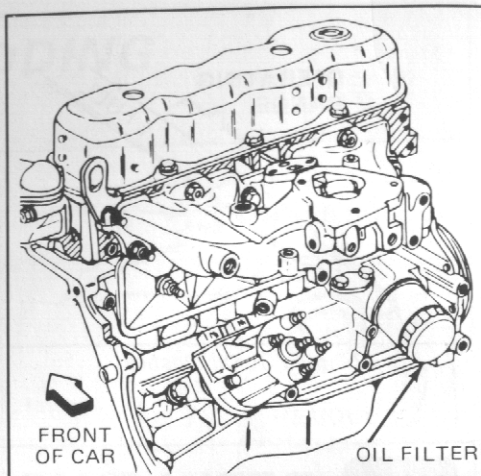

Figure 2 - Oil Filter, 4-Cylinder
4. Place a bucket beneath the oil filter and remove the oil filter by unscrewing it. Make sure the filter gasket is also removed. See Figures 2 or 3.